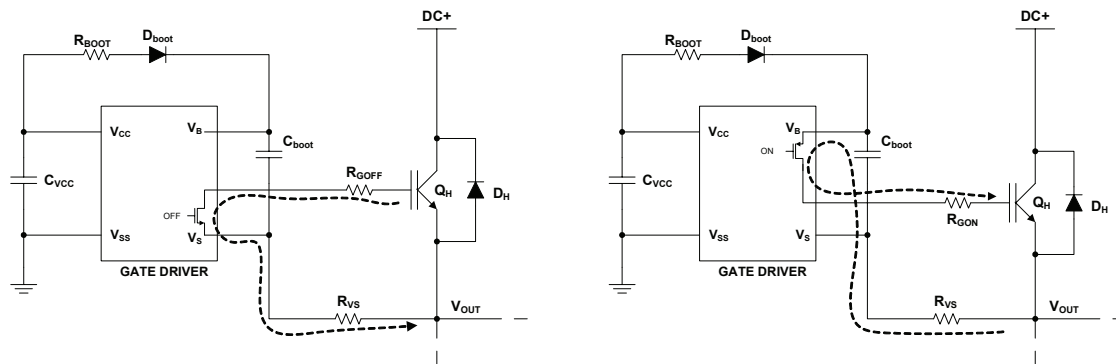

Figure 12: Gate turn-on and turn-off with R_{Vs}
3. R_{VS} takes also part in turn-on ($R_{GON}+R_{VS}$) and turn-off resistor sizing ($R_{GOFF}+R_{VS}$) as shown in figure 12.